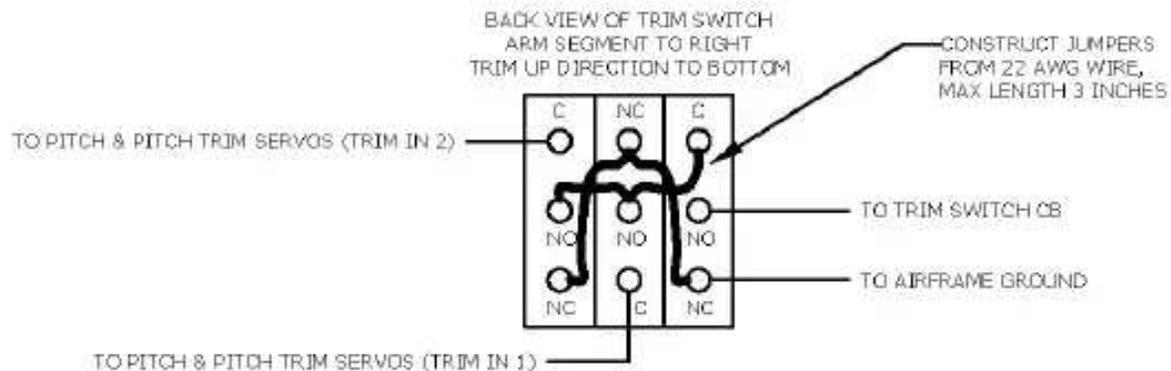

Figure A-7 – Trim Switch Wiring
- 3 REFER TO FIGURE A-7 FOR GS102 TRIM SWITCH WIRING DETAILS.